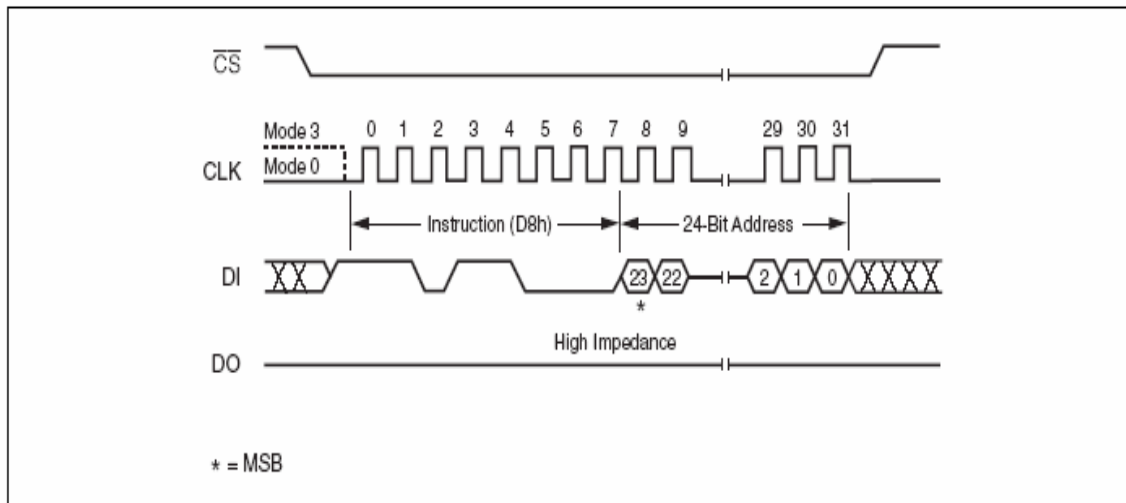

Figure 13 Block Erase Instruction Sequence Diagram
The instruction sequence is shown in Figure 13.. Chip Select ($CS\#$) must be driven High after the eighth bit of the last address byte has been latched in, otherwise the Block Erase (BE) instruction is not executed. As soon as Chip Select ($CS\#$) is driven High, the self-timed Block Erase cycle (whose duration is t_{SE}) is initiated. While the Block Erase cycle is in progress, the Status Register may be read to check the value of the Write In Progress (WIP) bit. The Write In Progress (WIP) bit is 1 during the self-timed Block Erase cycle, and is 0 when it is completed. At some unspecified time before the cycle is completed, the Write Enable Latch (WEL) bit is reset.